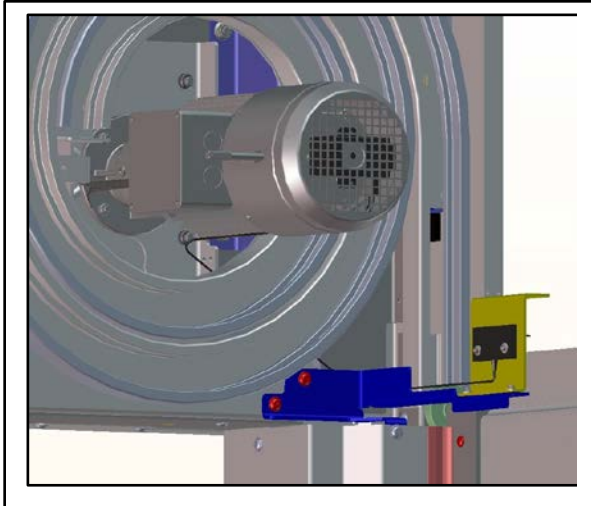

Figure 34
5. Inspect the hardware securing each spring strap to its spring pack. Tighten the hardware as required. Replace any missing or damaged hardware. (See Figure 34.)
Located at the top of the left or right side column you'll find the Spiral door wireless antenna reversing edge bracket. Check that all mounting hardware is secure. Inspect the antenna and cable for damage. (See Figure 34.)